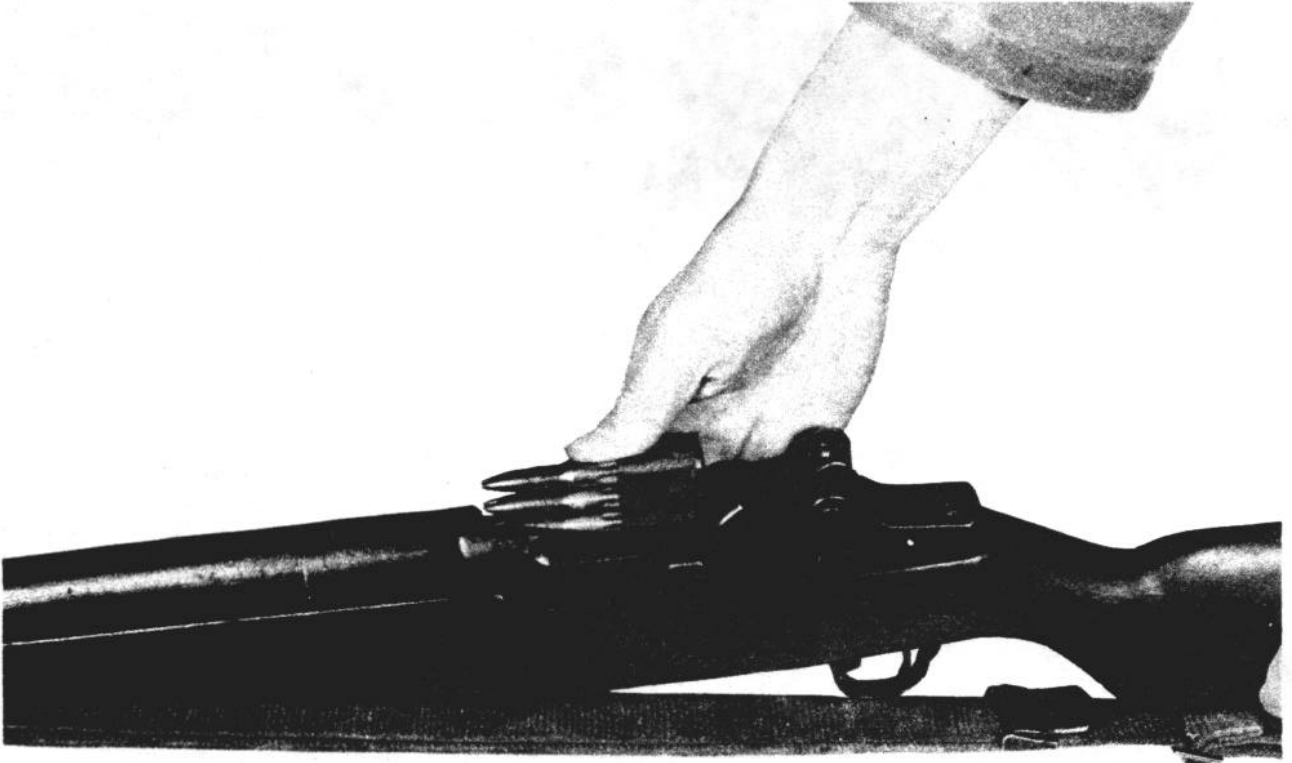

Figure 19. Loading a full clip.
*b. Full clip.* To load a full clip, hold the rifle at the balance with the left hand and pull the operating rod handle all the way to the rear. Place the butt of the rifle against the thigh or on the ground. With the right hand, place a full clip on top of the follower assembly. Place the thumb on the center of the top round in the clip and press the clip straight down into the receiver until it catches (fig. 19). Swing the right hand up and to the right to clear the bolt in its forward movement. Note that the operating rod is not held to the rear during loading since there is no danger of it going forward as long as pressure is main-